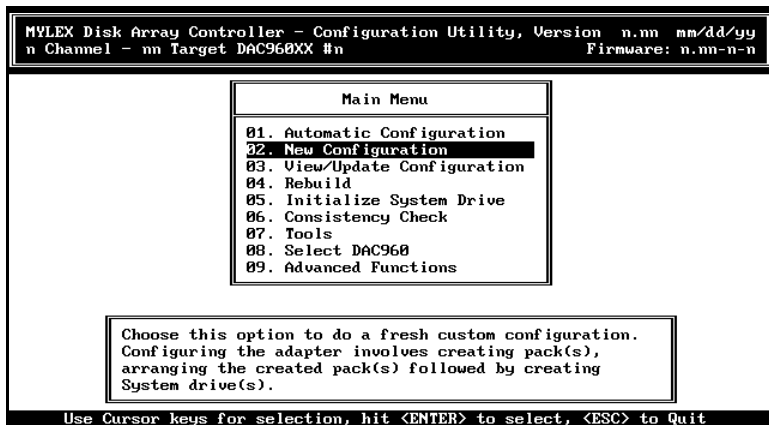

Figure 2-16. New Configuration Option
1. Select **New Configuration** from the Main menu (Figure 2-16).